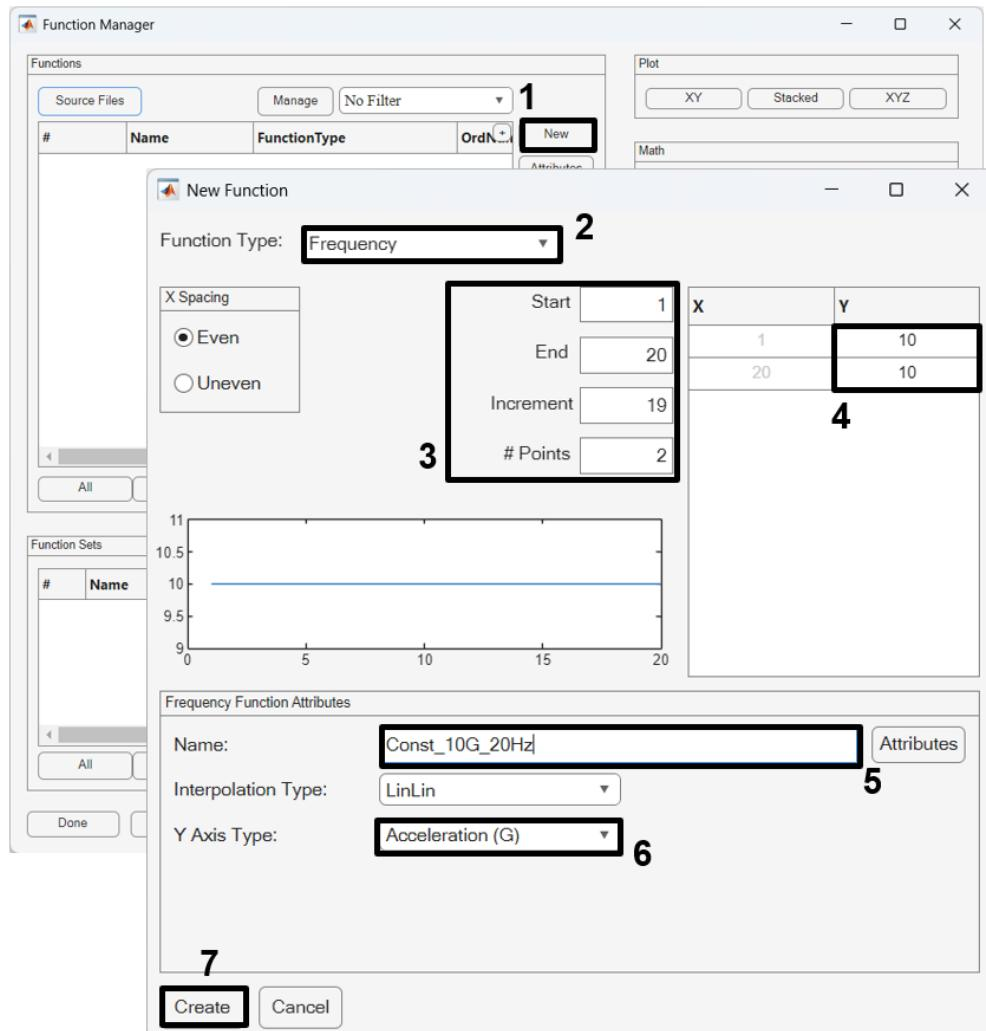

Figure 4-12. Use the Function Manager to create an acceleration function.
c. In the Function Manager (Figure 4-12), create a new function. Define it as a frequency function with acceleration in G. Give it a constant magnitude of 10G from 1 to 20 Hz.